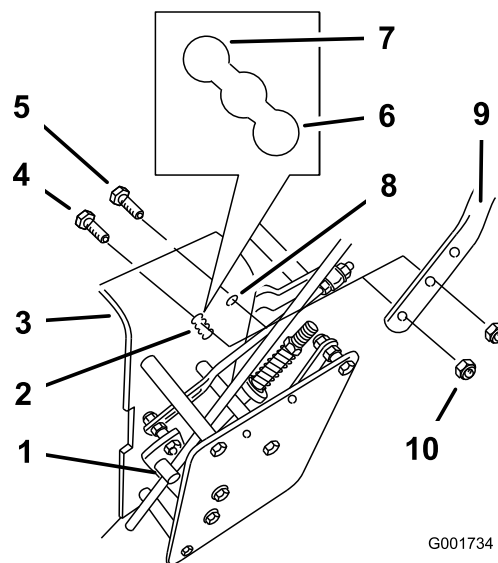

Figure 23
2. Loosen the upper flange bolts (3/8 x 1-1/4 inch) and flange nut securing handle to rear frame (Figure 23).
3. Remove the lower flange bolts (3/8 x 1 inch) and flange nuts securing handle to rear frame (Figure 23).
5. Adjust the control rod length by rotating the control rod in the rod fitting (Figure 23).